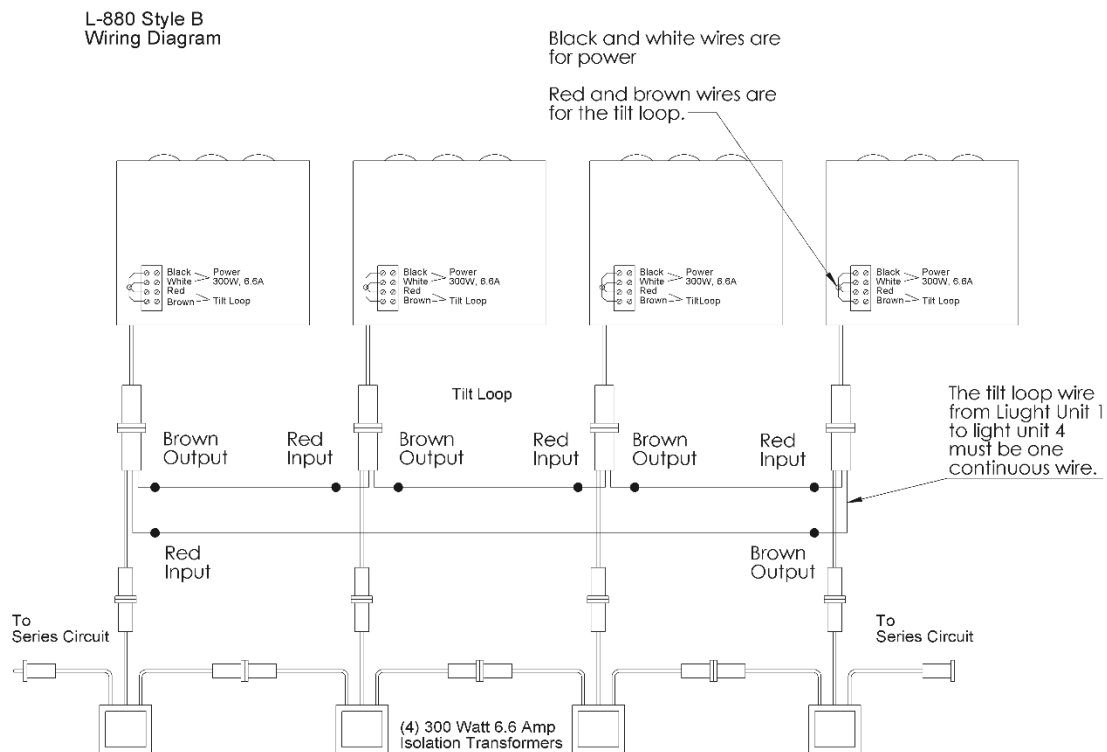

Figure 7: L-880, Style B Wiring Diagram
- Fasten the tilt loop leads on the Isolation Transformer Wire Harness to the tilts series loop per figures 7 and 8. On the L-880, 4 light unit systems, the tilt loop wire from light unit 1 to light unit 4 must be one continuous wire per figure 7.
- Attach 300 Watt isolation transformer per the figures 7 and 8.